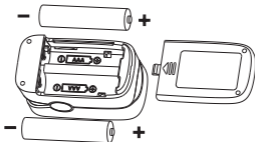

Figure 2: Battery Installation
- A. Put the two AAA batteries into battery compartment in correct polarities (Figure 2).